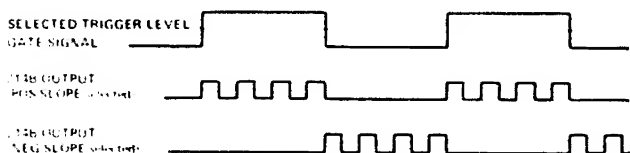

Figure 3-2 214B Outputs in Gate Mode
- with positive slope selected, the external signal is more positive than the selected trigger level (selected by EXT INPUT LEVEL control). See figure 3-2.
- with negative slope selected, the external signal is more negative than the selected trigger level. See figure 3-2.